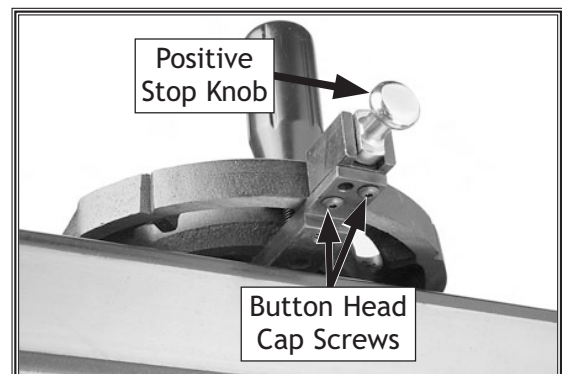

Figure 110. Screws for adjusting miter gauge body.
5. Loosen the button head cap screws on the positive stop knob block (see **Figure 110**), adjust the miter body until it is flush with the square, then tighten the screws.